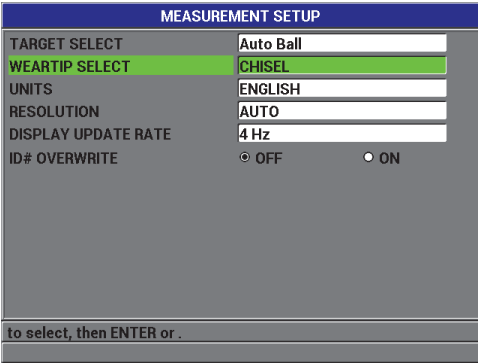

Figure 4-5 The MEASUREMENT SETUP screen
3. In the **MEASUREMENT SETUP** screen (see Figure 4-5 on page 78), proceed as follows: